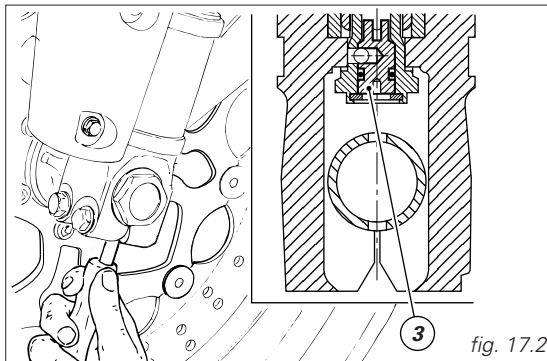

fig. 17.2
- 3) (fig. 17.2) to adjust compression damping.